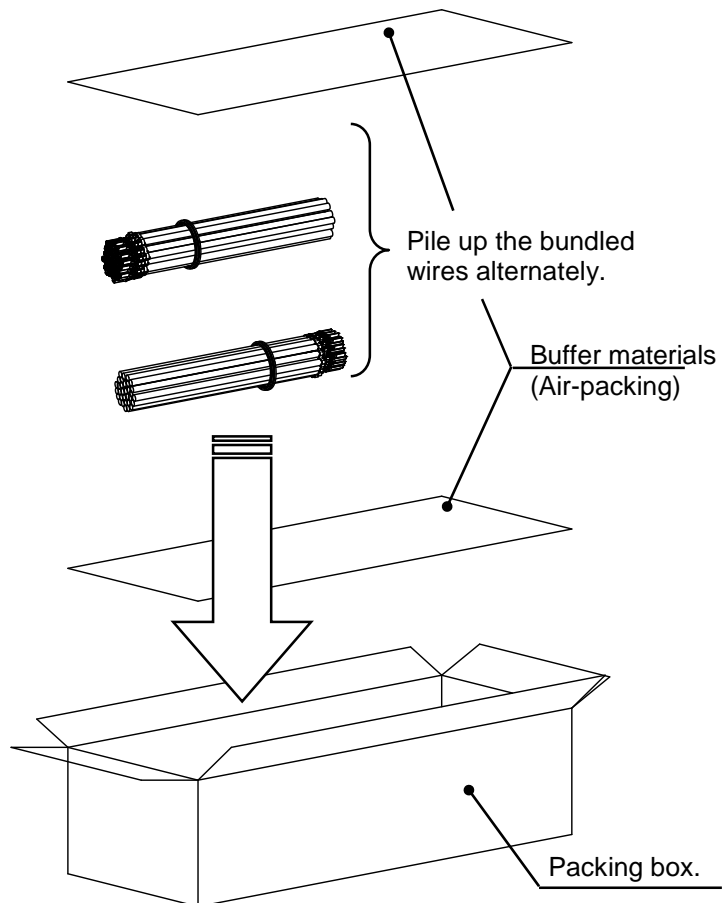

Fig. 5-2
- ※When packing bundled harnesses processed products in a packing box, put products alternately not to be applied to connectors over a long time by piling up. (cross shape) in a fitting box. **(Fig.5-2)**
- ※Use buffer materials on the bottom and top of a packing box. To avoid applying force to connector over a long time by stacking wires, use buffer materials. **(Fig.5-2)**